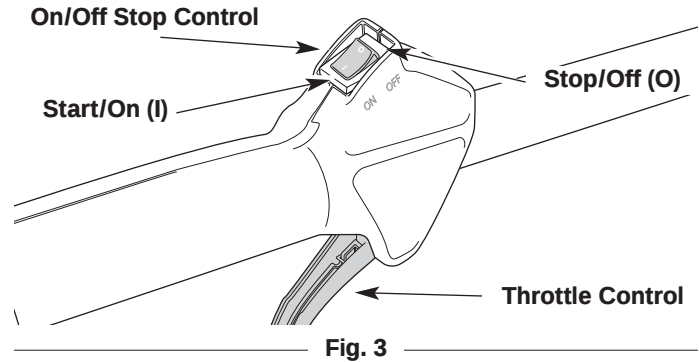

Fig. 3
2. Make sure the On/Off Stop Control is in the **ON (I)** position (Fig. 3).
2. Push and hold the On/Off Stop Control in the **OFF (O)** position of 3 seconds or until the engine stops running (Fig. 3).